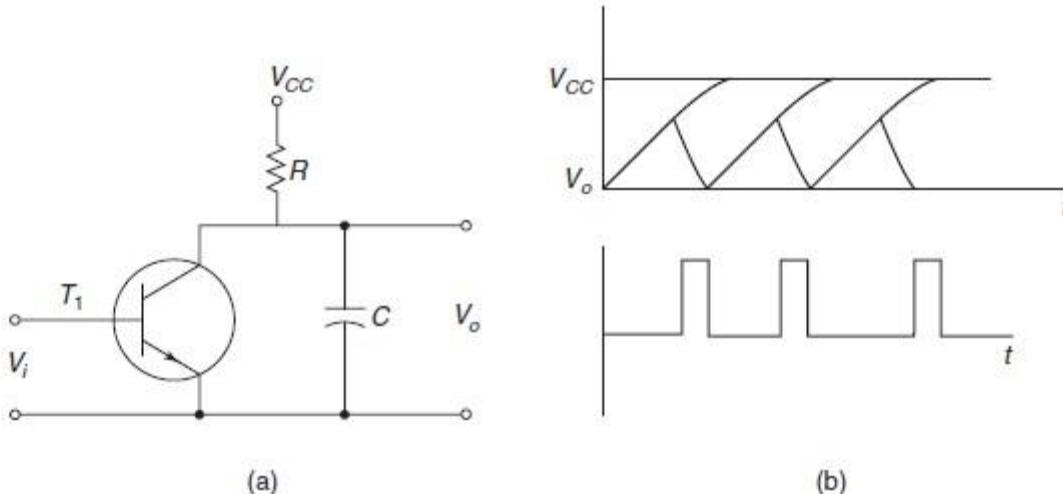

Figure 14-7: (a) simple saw-tooth generator (b) associated waveforms.
- The circuit shown in Fig. 14-7(a) is a simple sweep circuit, in which the capacitor C charges through the resistor R .
- *The capacitor discharges periodically through the transistor T_1 , which causes the waveform shown in Fig. 14-7(b) to appear across the capacitor.*
- The signal voltage, V_i which must be applied to the base of the transistor to turn it ON for short time intervals is also shown in Fig. 14-7(b).